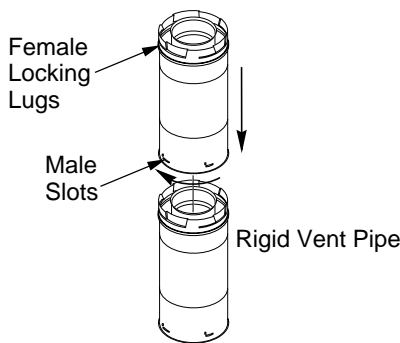

Figure 20 - Vent Pipe Connections
Twist-lock Procedure: The female ends of the pipes and fittings have four locking lugs (indentations). These lugs will slide straight into matching slots on the male ends of adjacent pipes and fittings. (All connections must be sealed with high temperature silicone sealant as specified in the second warning statement on page 11.) Push the pipe sections together and twist one section clockwise approximately one-quarter turn until the sections are fully locked. See Figure 20, page 13. *Note:* Horizontal runs of vent must be supported every three feet. Use wall straps for this purpose.
2. Assemble the desired lengths of pipe and elbows necessary to reach from the burner system flue up through the firestop. All connections must be sealed with high temperature silicone sealant as specified in the second warning statement on page 11. Be sure all pipe and elbow connections are fully twist-locked (see Figure 20, page 13).